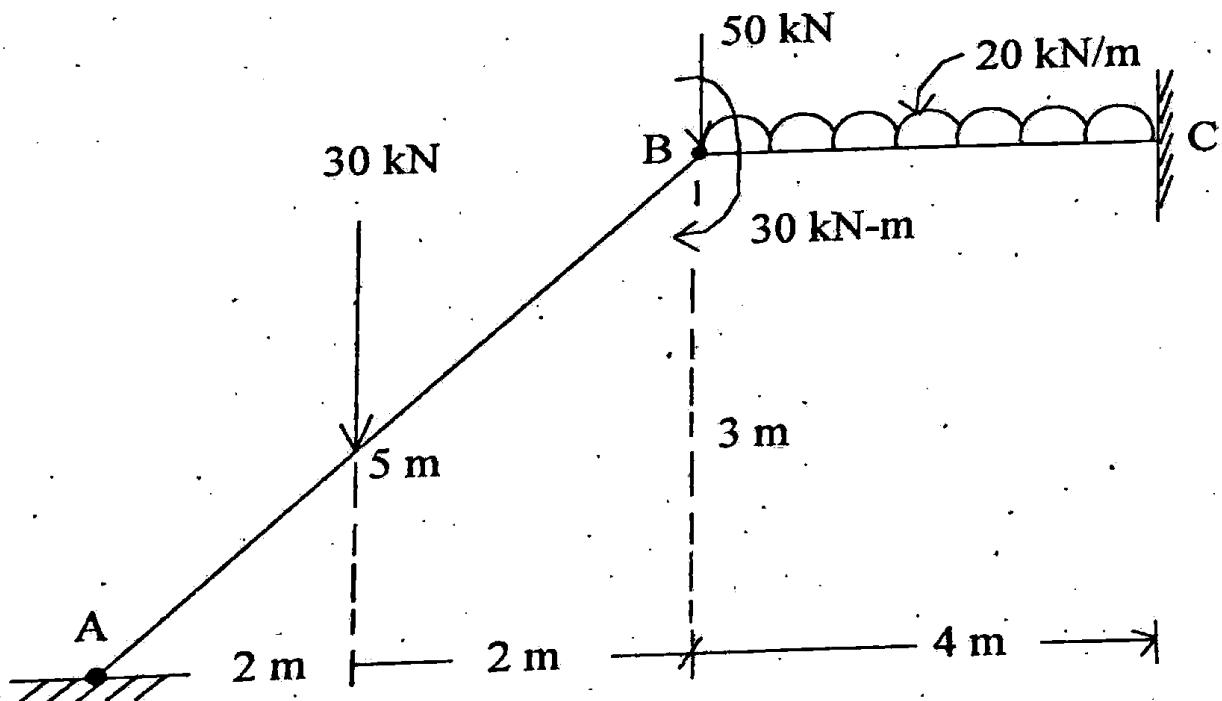

Fig. 9
9. Analyse the plane frame in Fig. 9 by Stiffness method. Draw B.M.D.  $E = 25.5 \times 10^6 \text{ kN/m}^2$ , size of member =  $30 \text{ cm} \times 50 \text{ cm}$ . Neglecting axial definition. 14